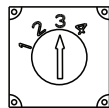

Figure 4: Regulator Voltage Selection Switch
1. Regulator has four selectable set points. Before installing regulator, verify appropriate switch setting (at bottom of regulator) for your application and change if necessary. See Figure 4 and Table 1 for fixed voltage set point options when used without battery sensor/harness. See Table 2 for battery chemistry-based charge profiles when used with compatible CEN battery sensor/harness. **Contact battery manufacturer or vehicle OEM for charging set point recommendations for your environment or application if necessary.**